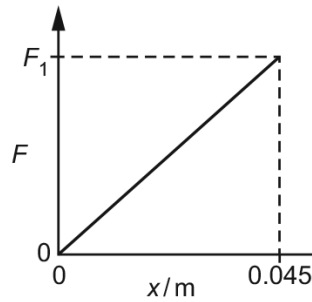

Fig. 3.1
- (a) A spring is fixed at one end and is compressed by applying a force to the other end. The variation of the force F acting on the spring with its compression x is shown in Fig. 3.1.
- (ii) Use Fig. 3.1 to show that, for a compression of 0.045 m, the elastic potential energy of the spring is 0.81 J.